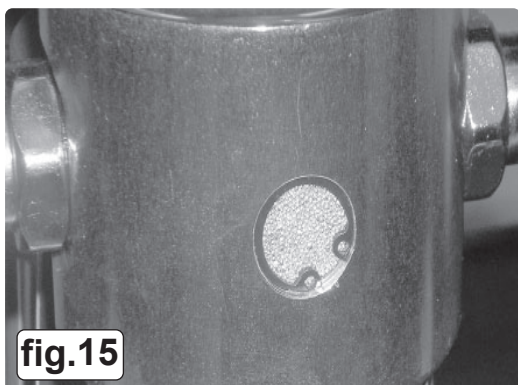

fig.15
- 6.6. To change the silencer, remove the circlip (fig.15) and remove the old silencer, place a new silencer into the recess and refit the circlip.